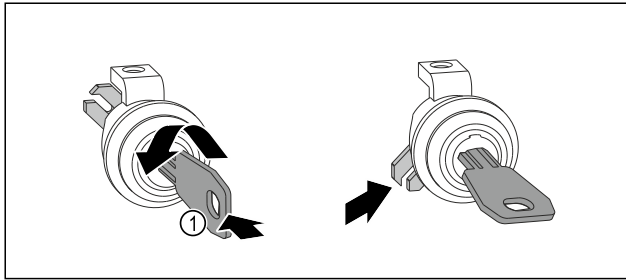

Fig. 14
- ▶ Insert the key Fig. 14 (1) and turn it.